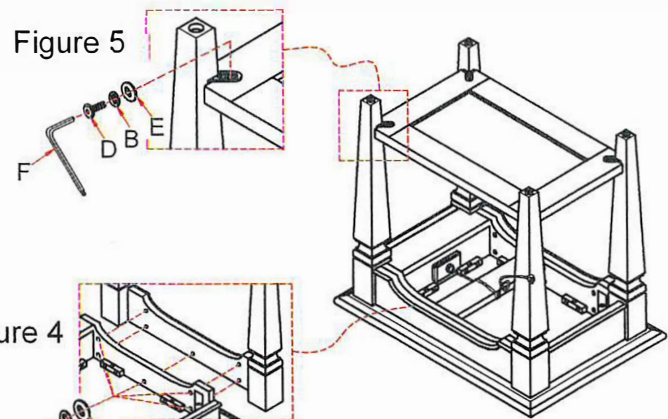

Figure 4
4. Then using Flat washer (C), Lock Washer (B), Bolt (A) with Allen Key (F) to connect leg frame of step 4 on the table. (See Figure 4).